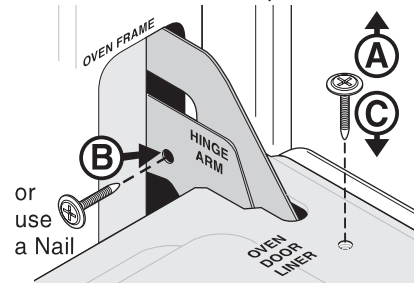

Fig. 2
5. Reinstall the 2 screws into the door liner (See **C** Fig. 2).